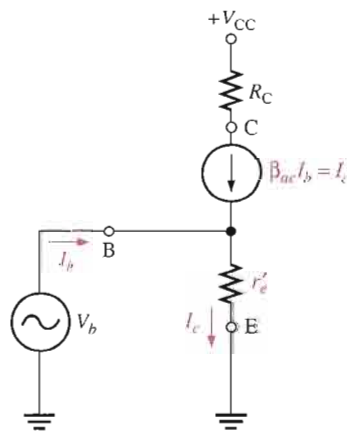

FIGURE 6–12
The ac equivalent circuit for the common-emitter amplifier in Figure 6–8 is shown in Figure 6–10(a). Notice that both R_C and R_1 have one end connected to ac ground because, in the actual circuit, they are connected to V_{CC} which is, in effect, ac ground.
AC equivalent circuit for the amplifier in Figure 6–8.
In ac analysis, the ac ground and the actual ground are treated as the same point electrically. The amplifier in Figure 6–8 is a common-emitter type because the bypass capacitor C_2 keeps the emitter at ac ground. Ground is the common point in the circuit.
Signal (AC) Voltage at the Base An ac voltage source is shown connected to the input in Figure 6–10(b). If the internal resistance of the ac source is 0Ω , then all of the source voltage appears at the base terminal. If, however, the ac source has a nonzero internal resistance, then three factors must be taken into account in determining the actual signal voltage at the base. These are the *source resistance* (R_s), the *bias resistance* ($R_1 \parallel R_2$), and the *input resistance* at the base of the transistor ($R_{in(base)}$), (some prefer to use the term *impedance*). This is illustrated in Figure 6–11(a) and is simplified by combining R_1 , R_2 , and $R_{in(base)}$ in parallel to get the total **input resistance**, $R_{in(tot)}$, which is the resistance “seen” by a source connected to the input, as shown in Figure 6–11(b). The total input resistance is expressed by the following formula:
Input Resistance at the Base To develop an expression for the input resistance looking in at the base, we will use the simplified r -parameter model of the transistor. Figure 6–12 shows the transistor connected with the external collector resistor, R_C . The input resistance looking in at the base is
Determine the signal voltage at the base of the transistor in Figure 6–13. This circuit is the ac equivalent of the amplifier in Figure 6–8 with a 10 mV rms, 300 Ω signal source. I_E was previously found to be 3.80 mA.